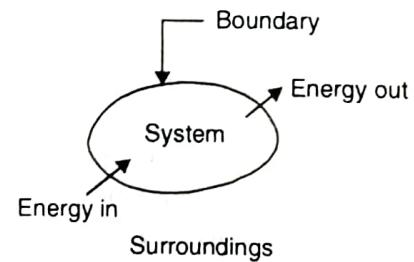

Fig. 1.4 A closed system
1. Closed System: In a closed system, **the mass within the boundary of the system remains constant and only the energy (heat and work) may transfer across its boundary.** Such a closed system is shown in Fig. 1.4. Some examples of closed system are :